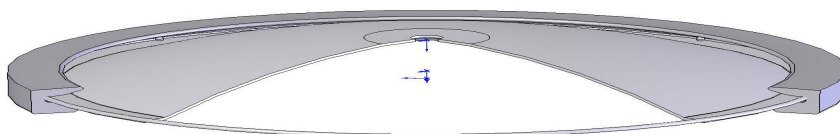

Figure 181
2. Check if the door gasket frame, door gasket plate are installed into the gasket completely as shown in Figure 181.